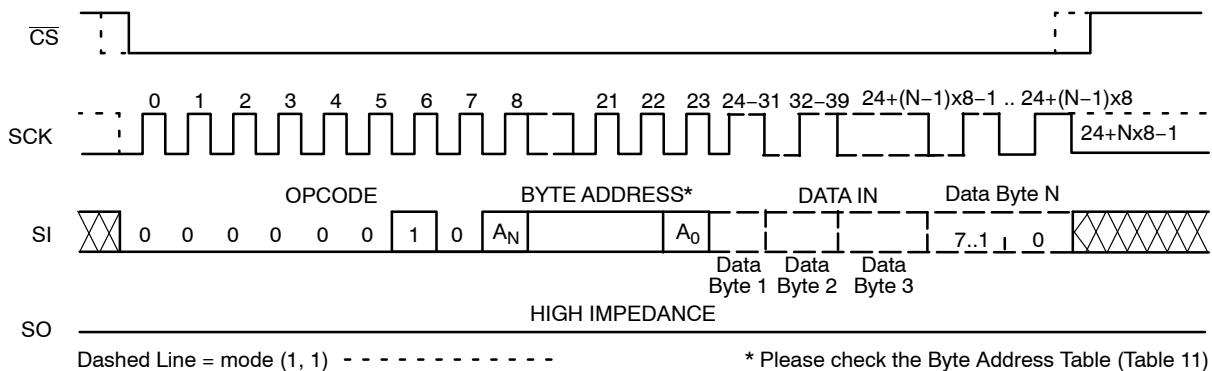

Figure 6. Page WRITE Timing
After sending the first data byte to the CAV25256, the host may continue sending data, up to a total of 64 bytes, according to timing shown in Figure 6. After each data byte, the lower order address bits are automatically incremented, while the higher order address bits (page address) remain unchanged. If during this process the end of page is exceeded, then loading will "roll over" to the first byte in the page, thus possibly overwriting previously loaded data. Following completion of the write cycle, the CAV25256 is
The additional 64-byte Identification Page (IP) can be written with user data using the same Write commands sequence as used for Page Write to the main memory array (Figure 6). **The IPL bit from the Status Register must be set (IPL = 1) using the WRSR instruction, before attempting to write to the IP.**